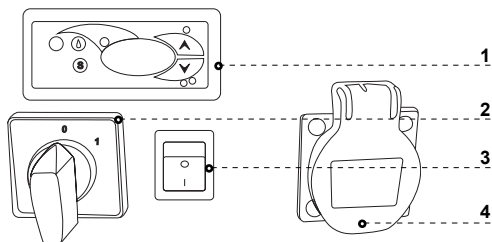

Fig.7 Control panel
- Turn on the main switch Fig.7/2 (p.14), which activates the temperature regulator, and then aggregate of the device
- Set the temperature on thermostat control panel Fig.7/1 (p.14) (service details on p.19 or 20)
- Turn on the lighting switch Fig.7/3 (p.14)